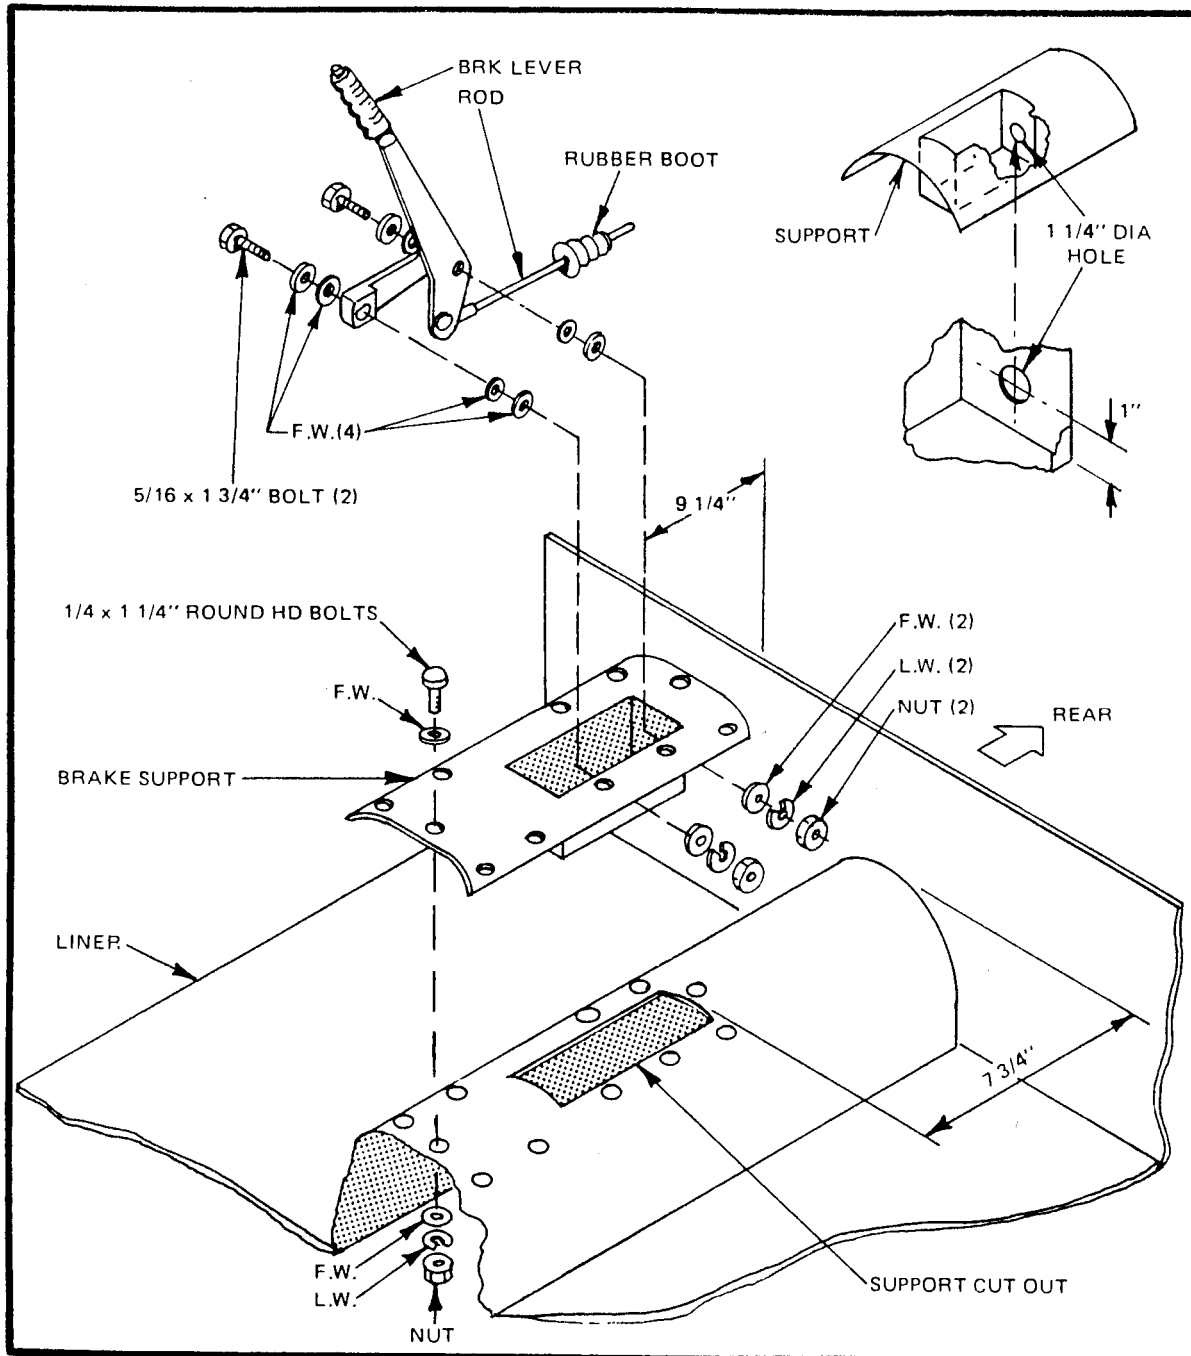

Figure 22
- Measure 7 3/4" from rear of liner and mark. This is the back edge of support cut out. Place back of support cavity on this line and trace rectangle from cavity on liner. Cut out liner with a sabre saw. Cut a 1 1/4" hole in the back of the brake lever support. (Figure 22)